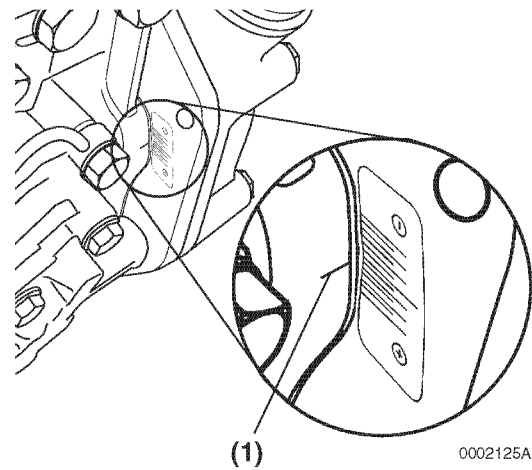

Figure 7-28
In this case, rotate the top of the fuel injection pump away from the cylinder block until the mark on the outside upper mounting boss (**Figure 7-28, (1)**) of the fuel injection pump aligns with the +0.5° mark on the timing sticker.